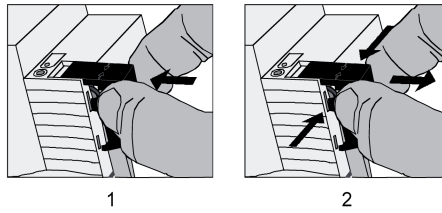

Figure 6: Installing / removing the protective cap for the bus connection
- To install the cap: slide the cap over the bus terminal until you feel it engage (Figure 6).
- To remove the cap: Remove the cap by pressing the sides slightly and by pulling it out to the front (Figure 6).